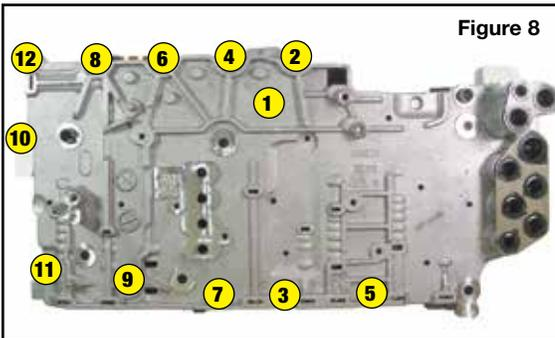

Figure 8
- f. Remove the 12, 7mm head bolts (**Figure 8**).
- Install the 12, 7mm head bolts and torque to 71 in-lbs. in sequence shown (Figure 8).